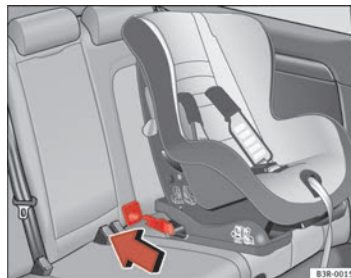

Fig. 33 The ISOFIX child seat anchors slide along the fitted plastic guides until secured in the vehicle's ISOFIX anchorages
- Slide the child seat anchorages along the plastic guides until secured in the vehicle's ISOFIX rings (when correctly closed, you will hear a click and the seat should also have a visual indicator to confirm it is correctly secured) ⇒ fig. 33.